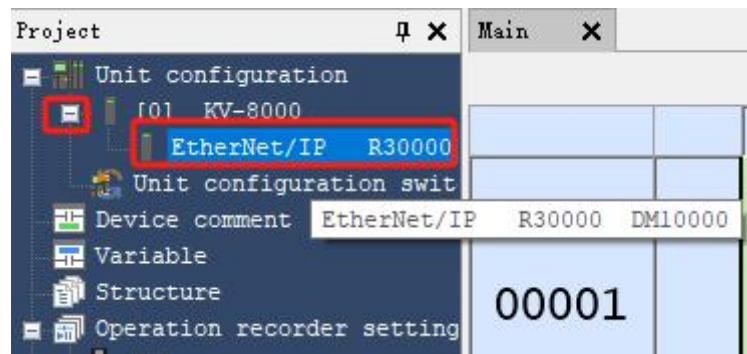
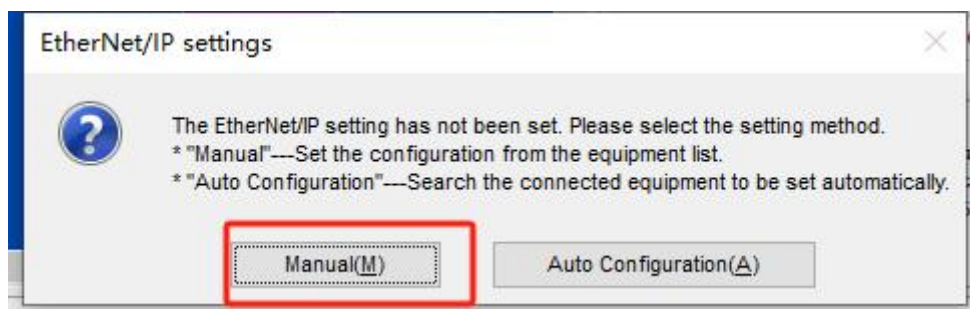

Figure 4-1-5
Figure 4-1-6
- in Figure 4-1-5 and Figure 4-1-6 , enter the " EtherNet/IP settings " interface.